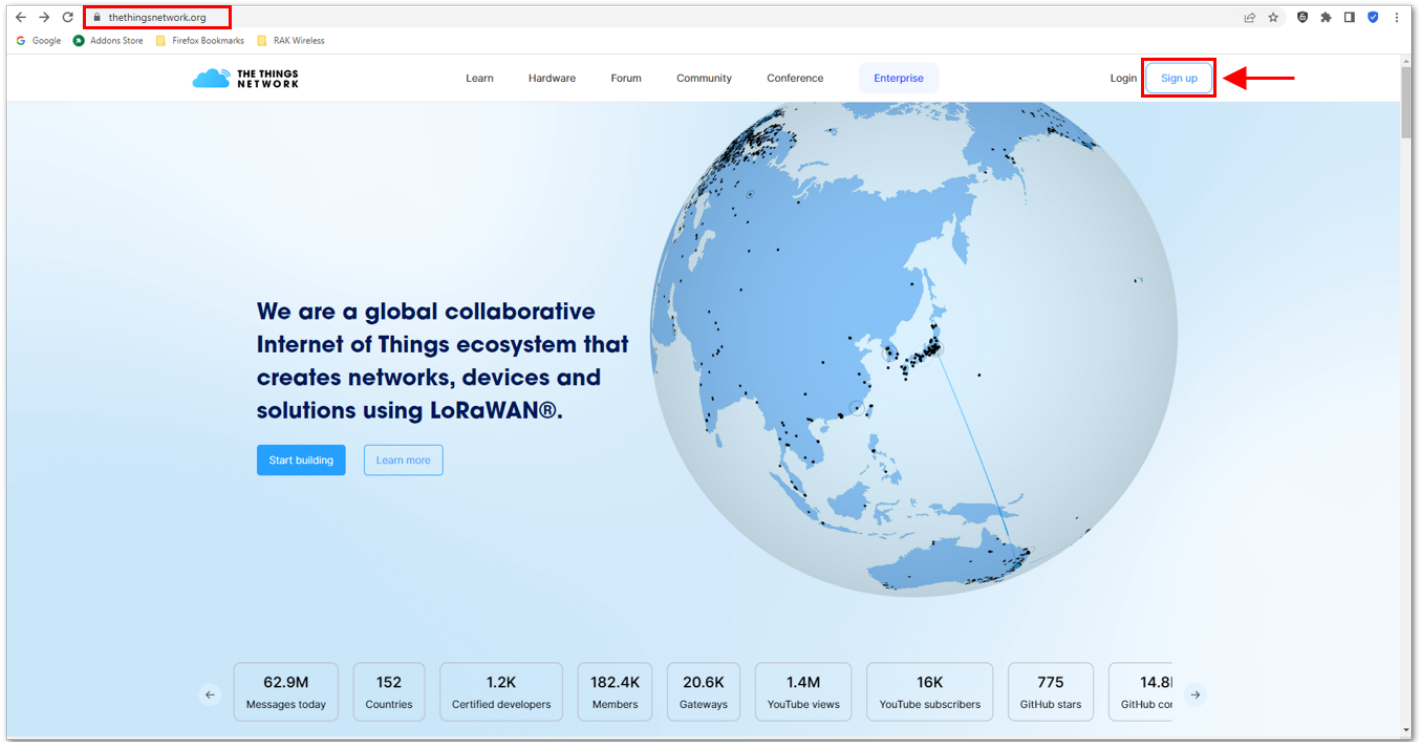
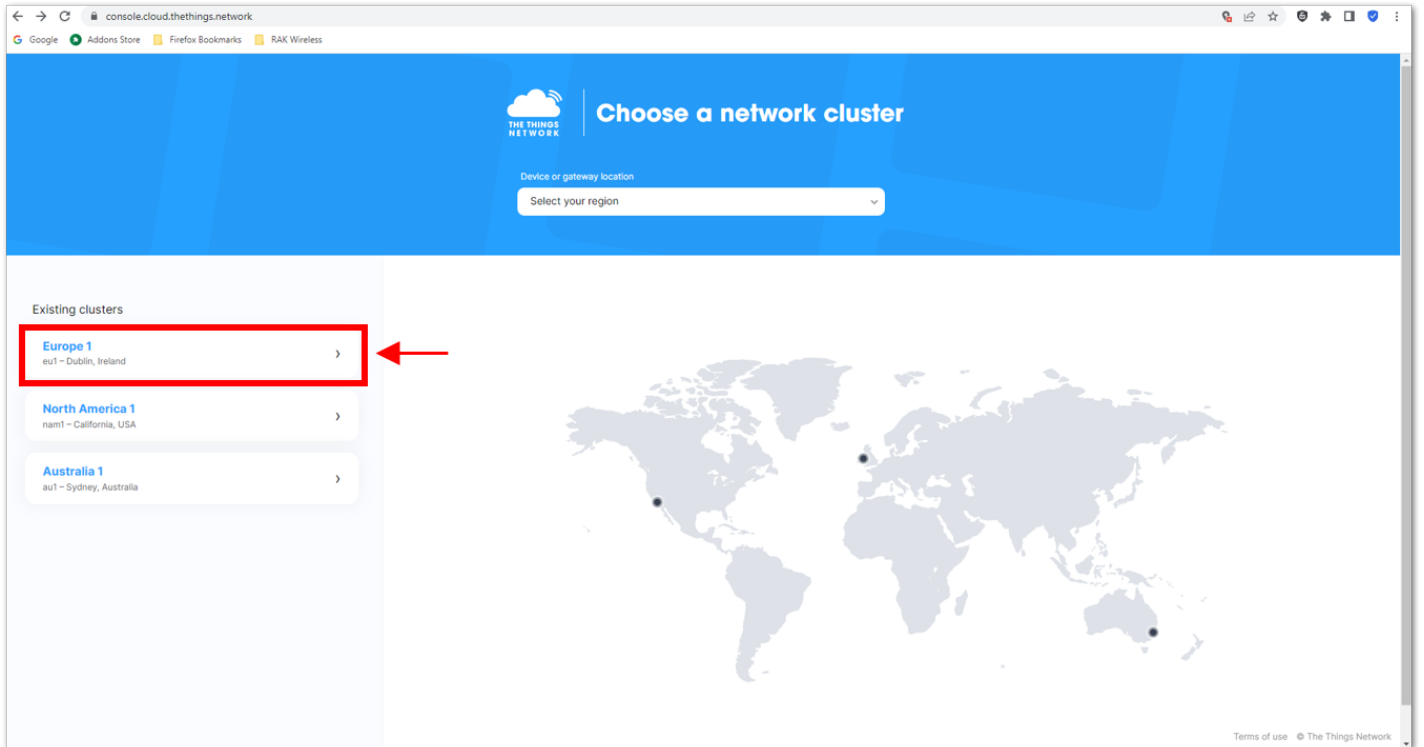

Figure 23: Signing up an account in TTN
Figure 25: Selecting Cluster in TTN
1. The first step is to go to The Things Network and sign up an account shown in **Figure 23**. Then select a cluster as shown in **Figure 25**.